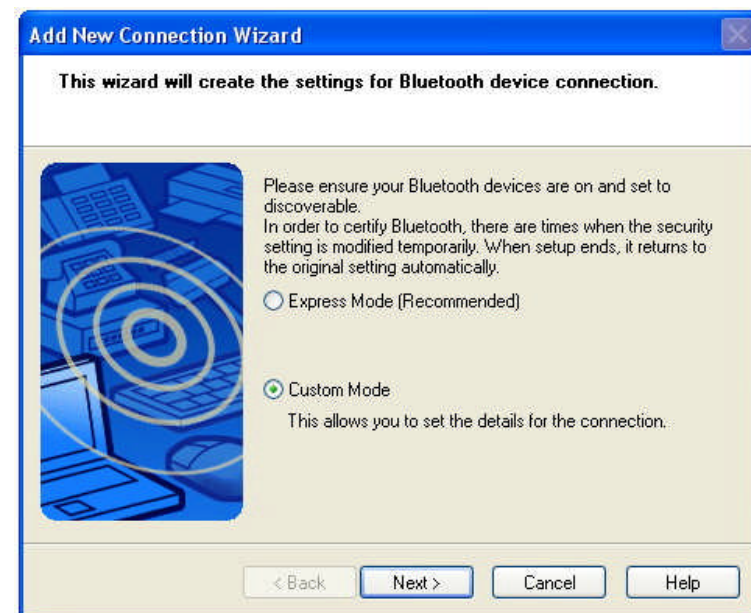

Figure 3.3: Select the “Custom Mode”
- b. Select the “Custom Mode”, and then click the “Next” button (Figure 3-3)